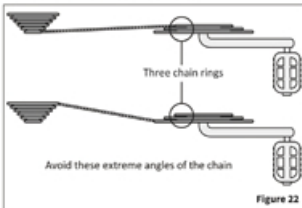

Figure 22
- For bicycles with 3 front chain rings; avoid "Cross Chaining", which is the position when the chain is in the smallest cog in the rear combined with the inner or smallest chain ring in the front, or the largest cog in the rear and the outer or largest chain ring in the front. These gear positions put the chain at the most extreme angle and can cause premature wear to the drivetrain. Bicycles with 3 front chain rings have enough gear "overlaps" that these gears are not needed. **Figure 22**